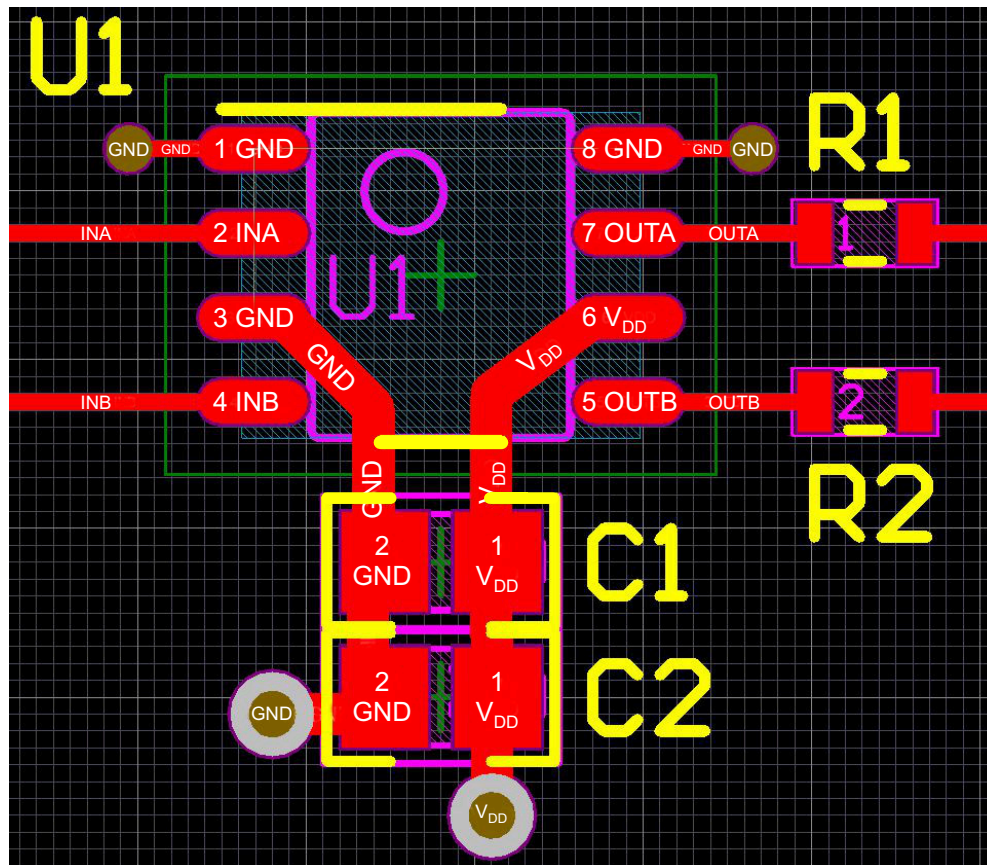

図 9-1. UCC27324-Q1 Layout Example
- Locate the V_{DD} bypass capacitors between V_{DD} and GND as close as possible to the driver with minimal trace length to improve the noise filtering. Place these capacitors as close to each other as is allowed, as shown by C1 and C2 in Figure 9-1 which ensures minimal trace inductance and gives the effect of a *capacitor bank*. These capacitors support high peak current being drawn from V_{DD} during turn-on of the power MOSFET. The use of low inductance surface mount components is highly recommended.